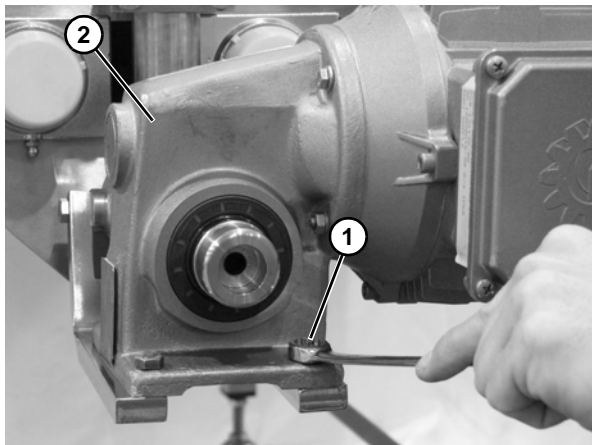

Figure 24
5. Remove the bolts (Figure 24, item 1) that connect the gearmotor (Figure 24, item 2) to the bent bars.